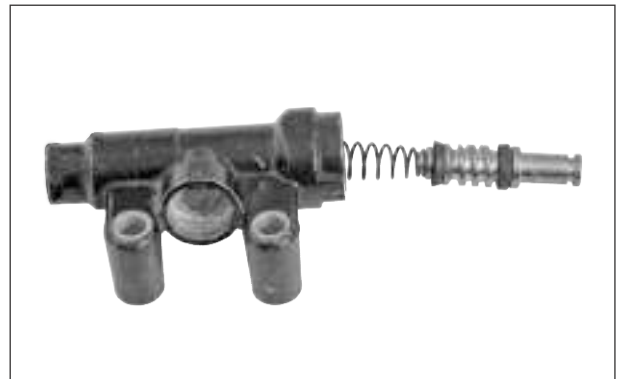

Fig. 6.129
- Slowly pull out piston along with P - cup, S - cup and spring. (Fig. 6.129)